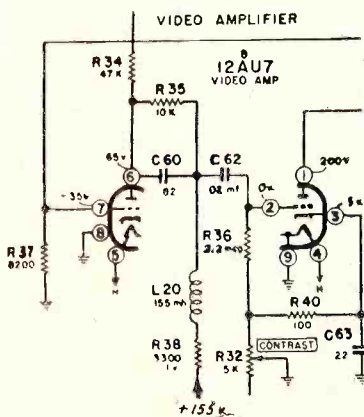

Fig. 1. Changes in the video amplifier circuit of the Gamble-Skogmo 94TV1-43-8940A.
**Code 13.** Capacitor C56 has been deleted. R32, contrast control, and R34 are now located as shown in Fig. 1. Additional changes in component location in this circuit are also shown in Fig. 1. The lead from R34 goes to pin 1 of tube 9-B, the agc amplifier. The lead from R37 goes to L16. The lead from pin 1 goes to the junction of C64 and L21. R37 has been relocated, as shown in Fig. 1, and its value is changed from 1,000 ohms to 8,200 ohms. C61-A has been deleted. R35 and C60 have been added. R32, R38, R40, and C63 are changed to 5,000 ohms, 3,300 ohms, 100 ohms, and 22  $\mu$ f, respectively. Since the contrast control was moved to a new location after Code 12, the output connection of an oscilloscope or meter will not be connected across the contrast control, but now across resistor R37 (pin 7 of tube 7 to ground).